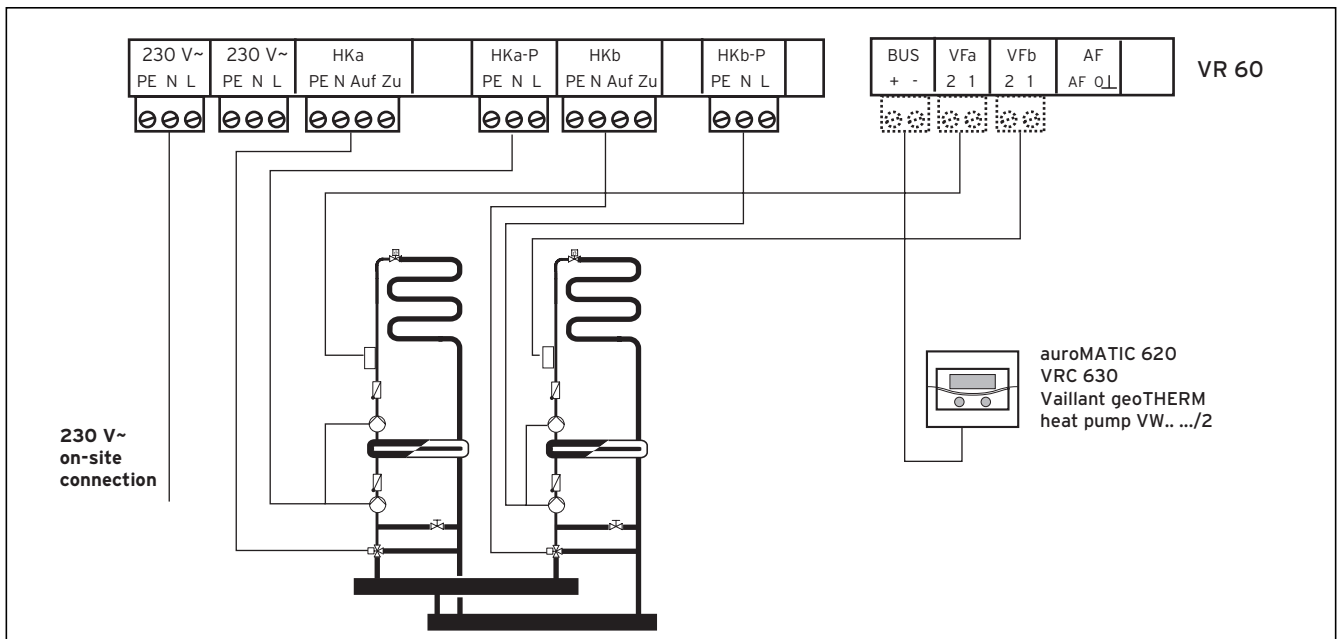

Fig. 5.1 Connecting the VR 60 mixer module
- Wire up the VR 60 mixer module as shown in Fig. 5.1.